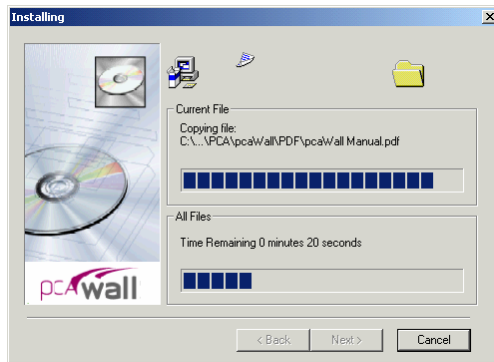

Figure 1-8. Installation progress
10. During the installation a window as in Fig. 1-8 shows the progress as files are copied to your hard drive.